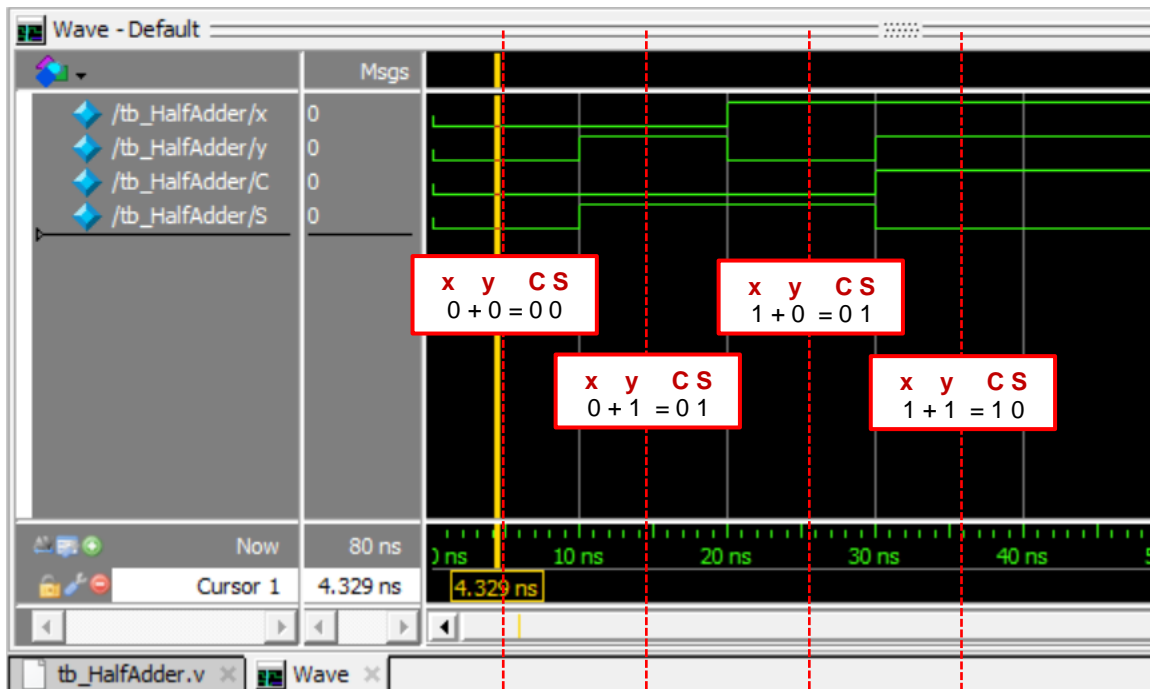

Figure 9. Testbench waveform for `HalfAdder.v` (with annotations)
15. The design is considered functionally verified if the waveforms follow the Half Adder functionality (*verify with its truth table*). Figure 9 shows an annotated version of the waveform screenshot to show that the results are functionally verified.